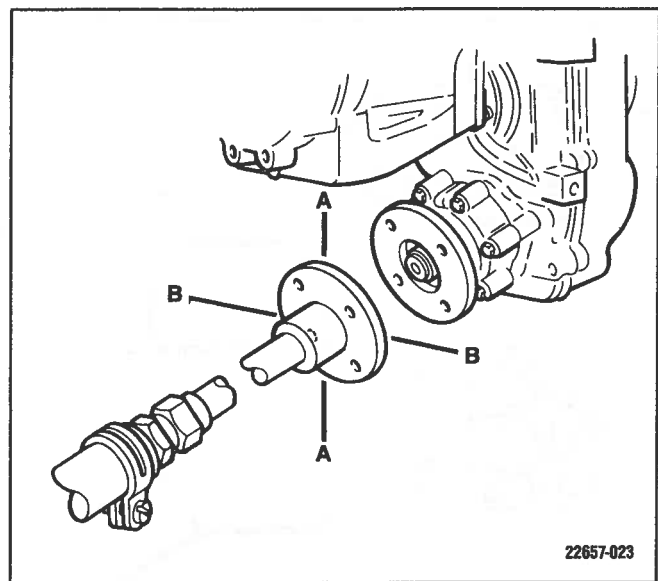

Figure 2-4. Propeller Shaft Alignment To Engine
2. Center the propeller shaft in the shaft log as follows (Figure 2-4):